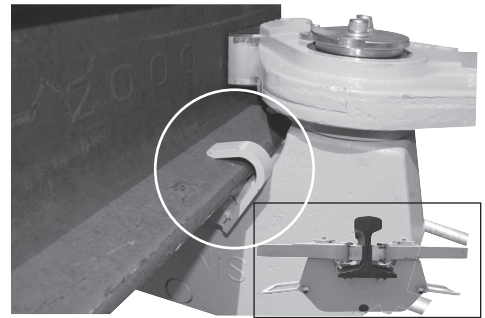
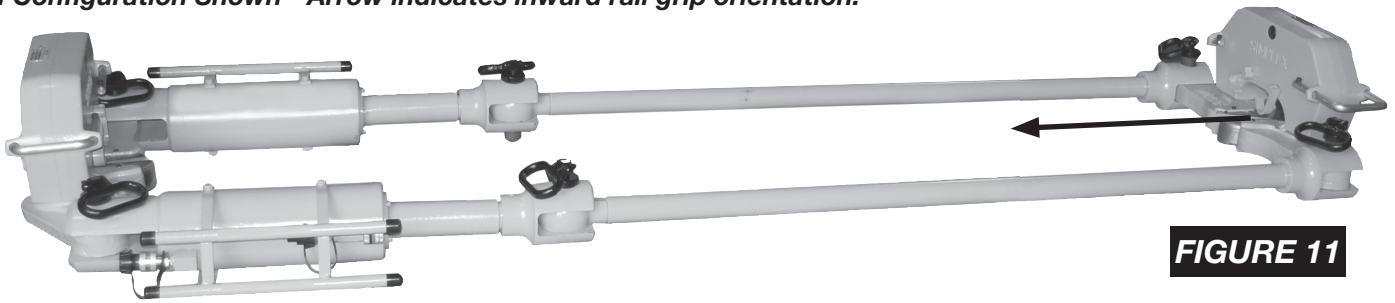
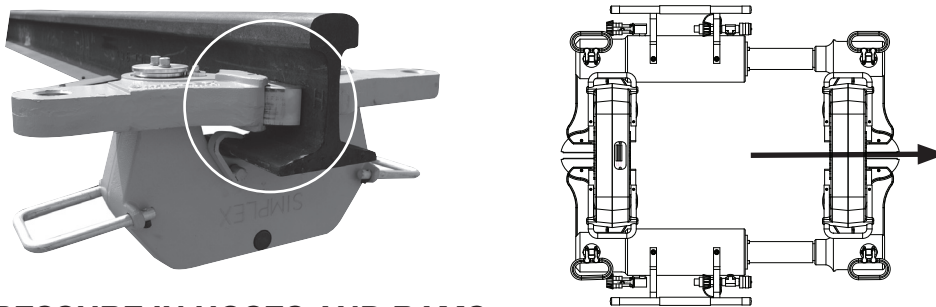

FIGURE 7
FIGURE 11
FIGURE 12
4. Position the bracket assemblies onto the rail (**when under the rail, use the bracket hooks to keep the bracket assemblies in position for the remaining steps (FIGURE 7)**). Ensure that the grip arrow direction goes inward (**FIGURE 11**). Rotate the swing arms of the bracket assemblies so that they are equally positioned on the web of the rail (**FIGURE 9**).
4. Position the bracket assemblies onto the rail (**when under the rail, use the bracket hooks to keep the bracket assemblies in position for the remaining steps (FIGURE 7)**). Ensure that the grip arrow direction goes outward (**FIGURE 12**). Rotate the swing arms of the bracket assemblies so that they are equally positioned on the web of the rail (**FIGURE 9**).